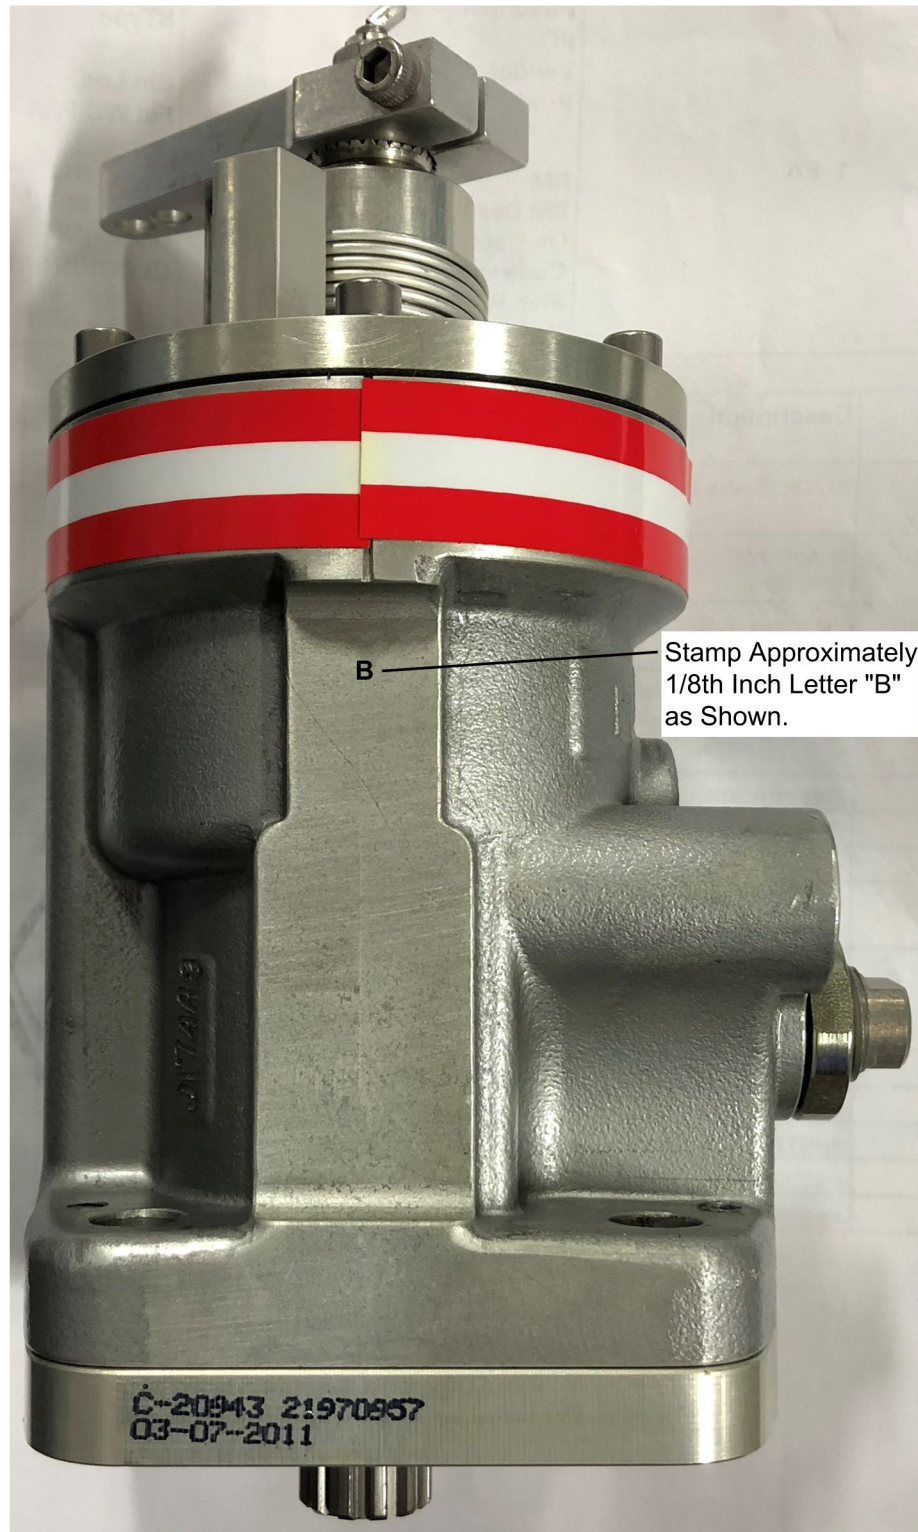

Figure 2. Governor Stamping (Sheet 1)
- (1) Remove and retain the A-20107 idler gear assembly.
- (2) Overhaul the governor and complete associated actions as indicated in McCauley SB215C
- E. Stamp the letter "B" (Approximately 1/8th of an inch character) on the governor body as shown in Figure 2.
NOTE: Governor stamping can be on the side shown in Figure 2, or on the data plate side.